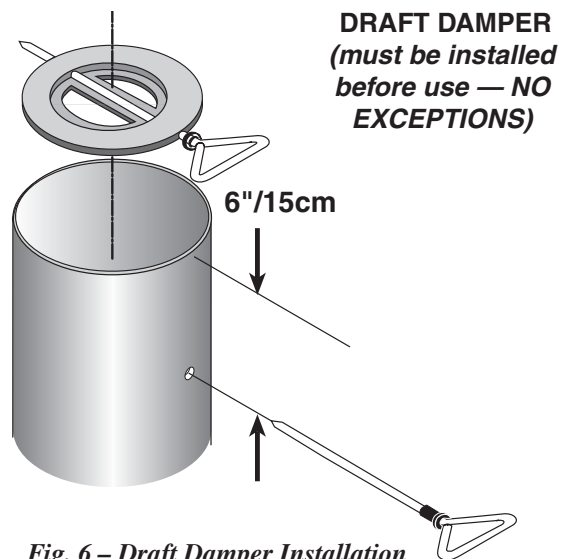

Fig. 6 – Draft Damper Installation
1. Drill two 1/4" / 6mm holes centered on either side of the pipe section 6" / 15cm from the top end of the pipe (figure. 6).